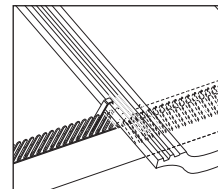

Fig. 13 – Eave clip and comb fillers for deep profile tiles (> 16mm gap)
- 8 For deep profile tiles, nail comb filler to top of fascia board (Fig. 13).